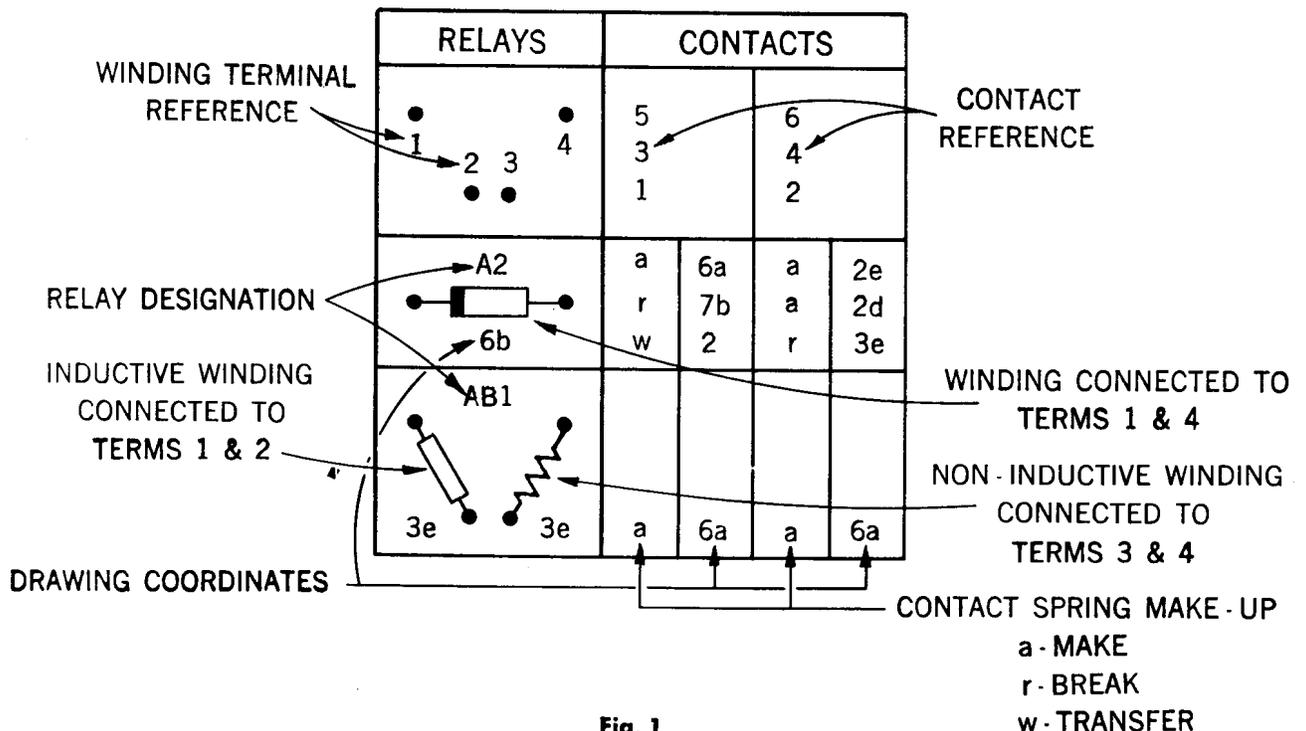

Fig. 1
1.07 The tables at the bottom of the schematics give the location of each relay winding terminal and its associated contacts by drawing coordinates. The contact spring make-up is also shown. Part of a table is shown in Fig. 1 with a labeled description.